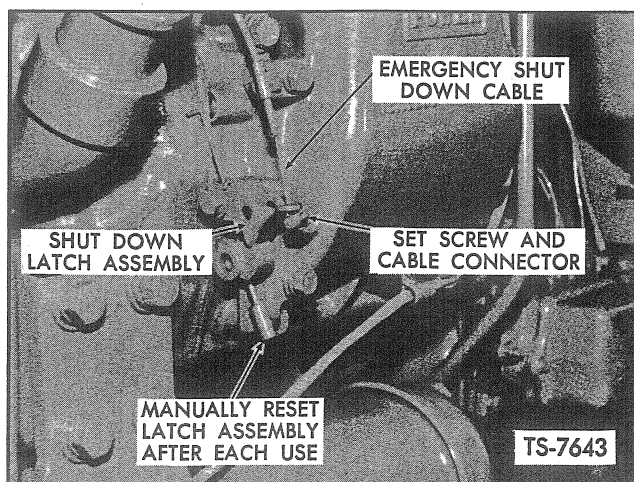

Fig. 22. Adjust Engine Air (Emergency) Shut-Off Control — G.M. Diesel
3. Adjust cable tension if necessary at engine air shut down latch assembly by loosening set screw from cable connector, and increasing cable tension as necessary. Resecure cable in cable connector by retightening set screw. See Figure 22.